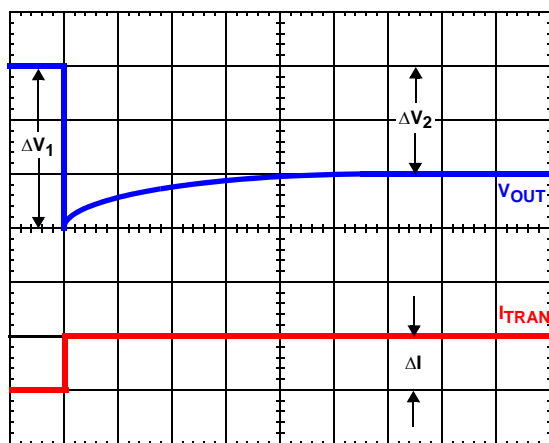

FIGURE 22. TIME CONSTANT MISMATCH BEHAVIOR
Due to errors in the inductance or DCR, it may be necessary to adjust the value of  $R_1$  and  $R_2$  to match the time constants correctly. The effects of time constant mismatch can be seen in the form of droop overshoot or undershoot during the initial load transient spike, as shown in Figure 22. **Do the following steps to ensure the R-C and inductor L/DCR time constants are matched accurately.**
2. Record  $\Delta V_1$  and  $\Delta V_2$  as shown in Figure 22.